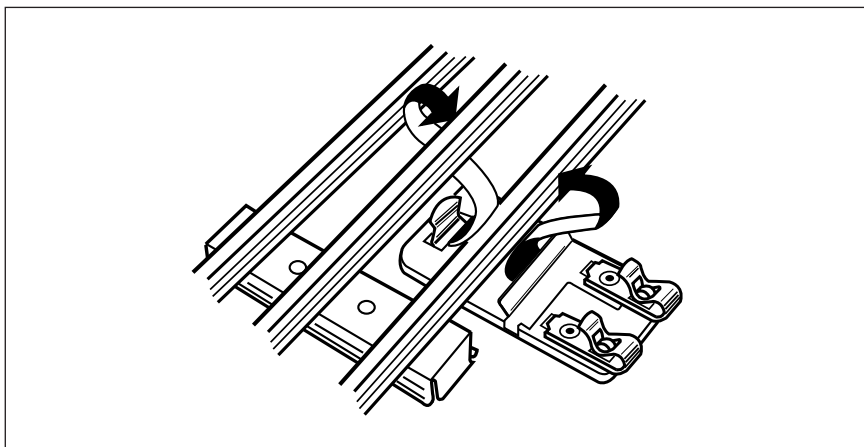

Figure 2. Lionel Lockon
1. As illustrated in Figure 2, attach the Lockon to any straight section of track.